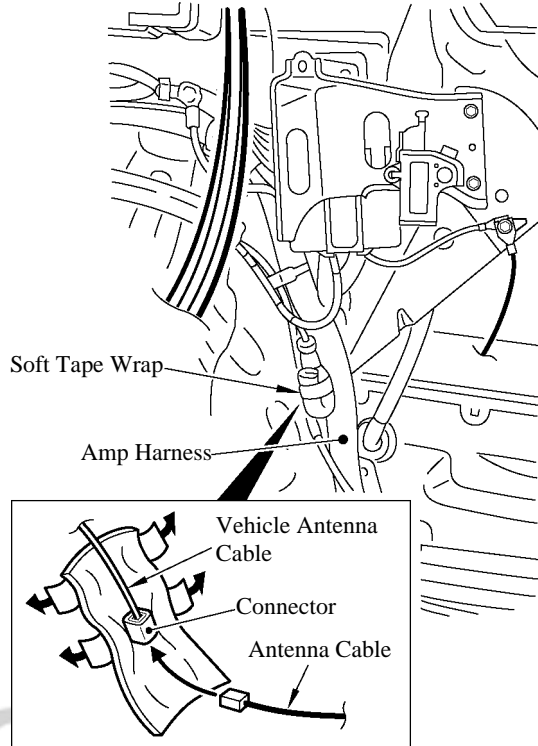

Fig. 4-6
- (i) Connect the antenna cable to the vehicle antenna cable (Fig. 4-6, 4-7).
NOTE: For models not equipped with Lexus Link, connect them after unbinding the soft tape wrap at the tip of the vehicle antenna cable (Fig. 4-6).